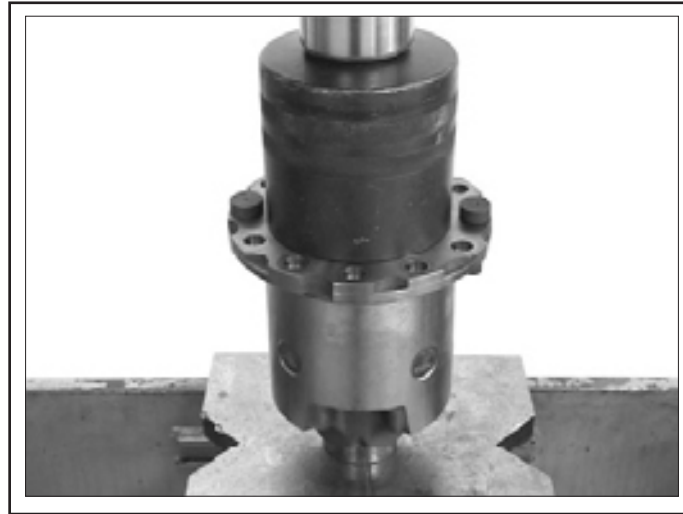

Figure 18 - Differential Cover Alignment
2.46. Radially align the differential cover by means of locating pins and then press it into the differential carrier until contact is obtained. See Figure 18.